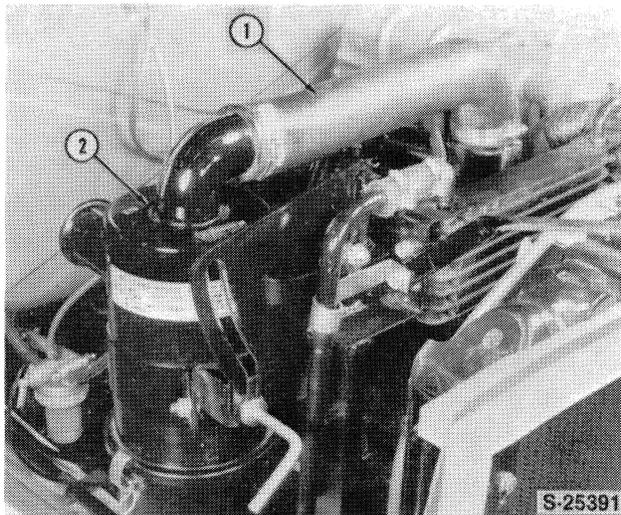

Figure 3
2. Remove the air cleaner (2) and hose (1), Figure 3.